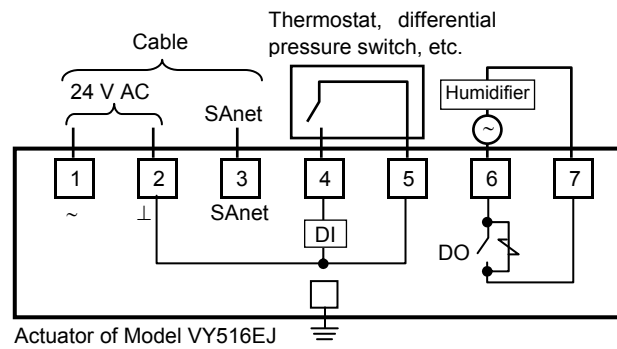

Figure 10. Basic connection example
- 3) Correctly connect the wires to the terminals with M3.5 screw terminal lugs, referring to Fig. 10.
To connect a device with over 100 V AC to the sub-DO (terminals 6 and 7), be sure to ground the actuator with 100 Ω or lower ground resistance. Refer to Fig. 10 for the location of each terminal.